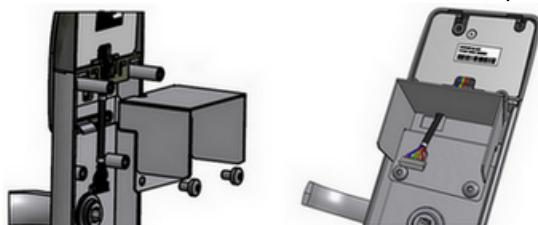

Figure 18
19.When upgrading an existing ASSA ABLOY Hospitality installation with LCU (*lock controller unit*) or RM/CM (*reader module/control module*), the upgrade plate must be installed. This is a precaution which is required due to already existing holes in the door. Use the old mounting screws from the LCU/RM to fasten the upgrade plate as shown in Figure 18. Additional fire protection material must also be placed in the location of the removed LCU/RM.